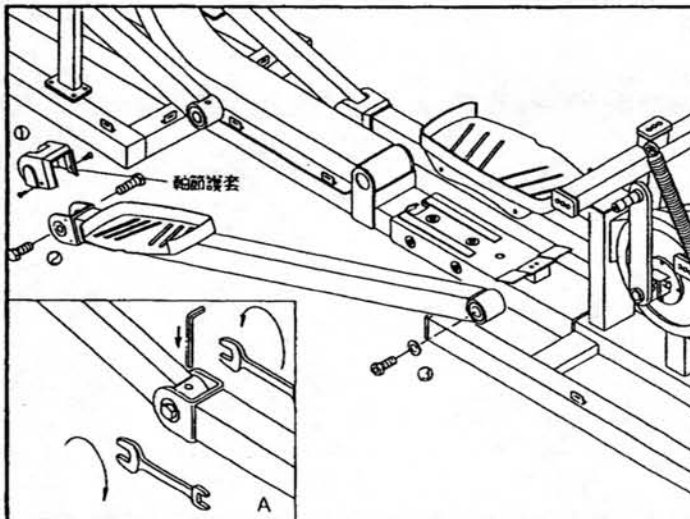

Fig.5-11
6. Firstly secure the LINKAGE into the FRAME by screwing (see fig 5-11.③).
Secondly, install the REAR HORIZONTAL LINKAGE to the FRONT HORIZONTAL LINKAGE by tightening the screw. Using a Hex Allen Wrench to fix left side of screw and use another two wrenches to screw from the LINKAGE in two opposite directions (see fig 5-11 ② and the enlarged fig A).
Lastly, secure the left side of STAIR ARM JOINT COVER by screwing (see fig 5-11 ①).